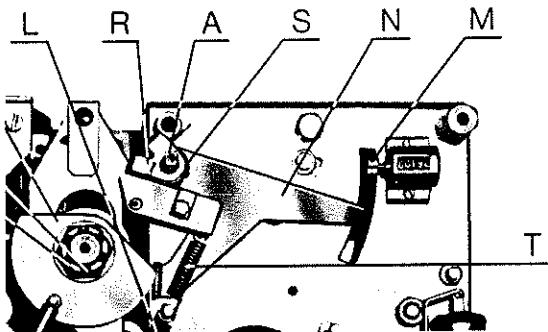

Fig. 25 – Montaggio contamanovre
10.3.11. Operation counter (fig. 25)
- Dismantle the shaft of the opening knob (A) by removing the rear fixing spring and the return spring (R).
- Mount the operating lever (N) and the spring ring (S).
- Hook up the return spring (T).
- Remount the shaft of the opening knob (A) and the key lock, if installed.
- Fix the operation counter as shown in the figure, without locking the lever (O), connecting the operating tie-rod (P) at the same time.
- Lightly push the lever (O) upwards and lock it in this position by tightening the screw (M).